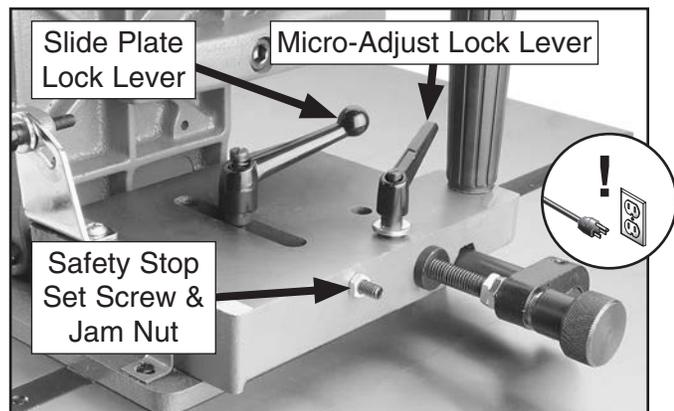
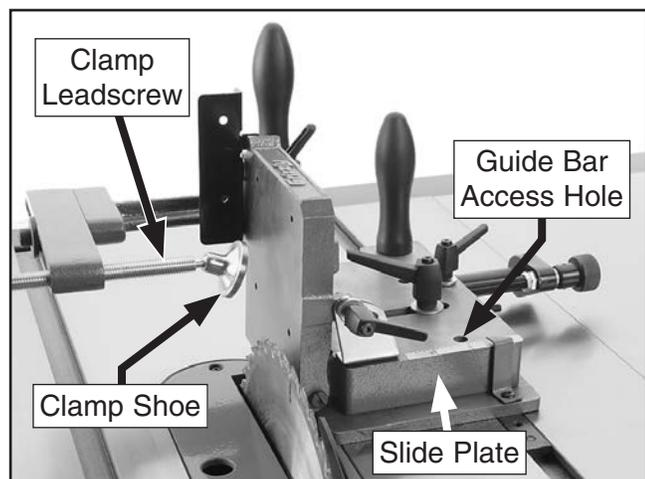

Figure 18. Side support safety stop.
Figure 19. Checking for side support parallelism with the saw blade.
In this procedure you will adjust the side support to be parallel with the saw blade and 1/2" away from it. Then you will set the safety stop set screw (see **Figure 18**) so that the side support cannot come into contact with the blade when adjusting for different cuts.
- Loosen jam nut on safety stop set screw, then back the set screw out so that it will not interfere with adjustments (see **Figure 18**).
- Loosen slide plate and micro-adjust lock levers, shown in **Figure 18**, then use clamp handwheel to move clamp leadscrew and shoe out of the way for the next step (see **Figure 19**).
- Use micro-adjust knob to align slide plate guide bar access hole (see **Figure 19**) over guide bar cap screw, then loosen cap screw.